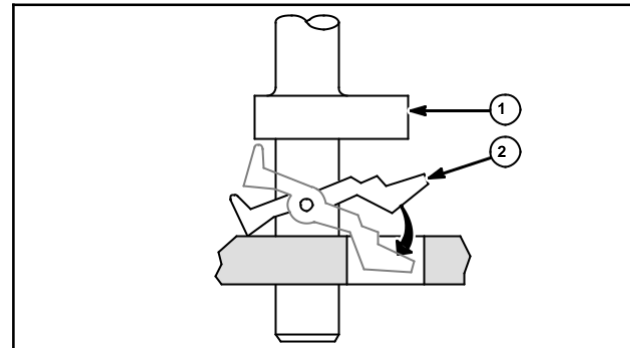

Fig. 8
Mechanical yoke type compression releases use a spring loaded yoke (2) at the exhaust cam lobe (1) to open the exhaust valve during starting. When engine starts, centrifugal force causes the yoke to overcome spring tension and swings away from exhaust tappet returning engine to normal compression, Fig. 8.